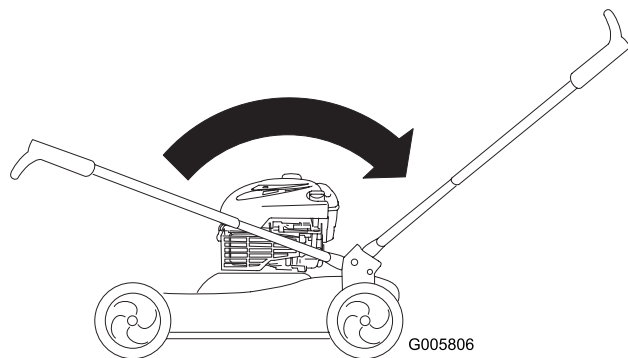

Figure 5
3. Rotate the handle rearward (as shown) until it clicks into place (Figure 5).